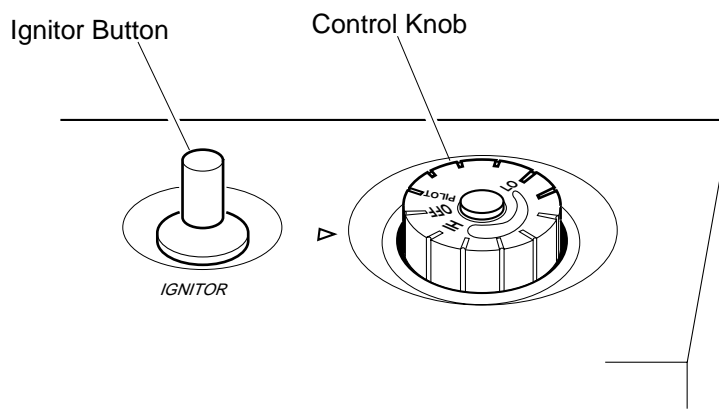

Figure 16 - Control Knob In The OFF Position
4. Wait five (5) minutes to clear out any gas. Then smell for gas, including near the floor. If you smell gas, STOP! Follow “B” in the safety information at the top of page 16. If you don’t smell gas, go to the next step.
5. Turn control knob counterclockwise  to the PILOT position. Press in control knob for five (5) seconds (see Figure 16, page 16).